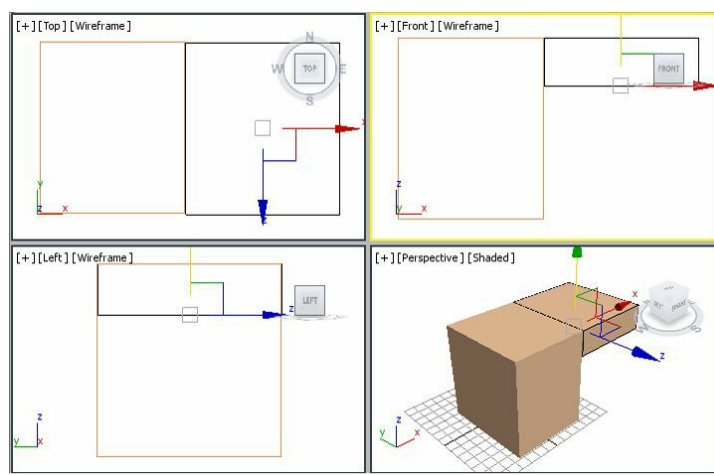

Figure 2-49 Alignment of left box with right box in viewports
1. Choose the **Select and Move** tool and make sure *right box* is selected. Move *right box* along the X, Y, and Z axes in all viewports to align it with *left box*, as shown in Figure 2-49. Click in the viewport and choose the **Zoom Extents All** tool from the viewport navigation controls to view the box in all viewports, refer to Figure 2-49.